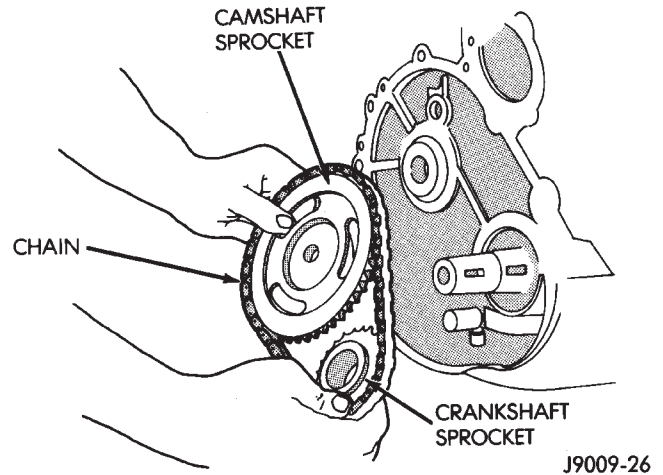

Fig. 44 Camshaft and Crankshaft Sprockets and Chain
- (7) Remove the oil slinger from the crankshaft.
- (8) Remove the camshaft retaining bolt and remove the sprockets and chain as an assembly (Fig. 44).
(9) To replace the timing chain tensioner, the oil pan must be removed.